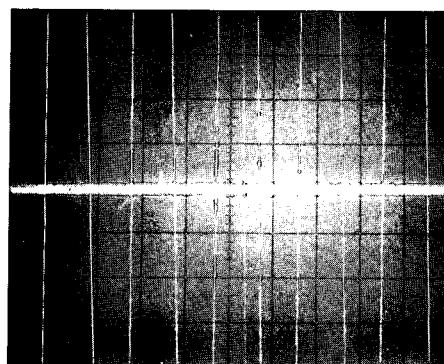

Figure 5-8. Waveform at A13TP3.
- c. Adjust "OFS-3" potentiometer A13R66 until dc level of displayed waveform is 0mV $\pm 10\text{mV}$. Refer to Figure 5-8 which shows well adjusted waveform.